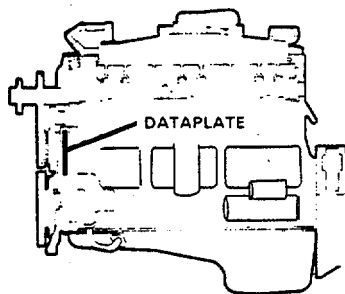

FIGURE 1-2. Engine Dataplate Location.
a. Engine Dataplate. The engine dataplate shows specific information about your engine. The engine serial number and the Control Parts List (CPL) provide information for ordering parts and service needs (Figure 1-2).